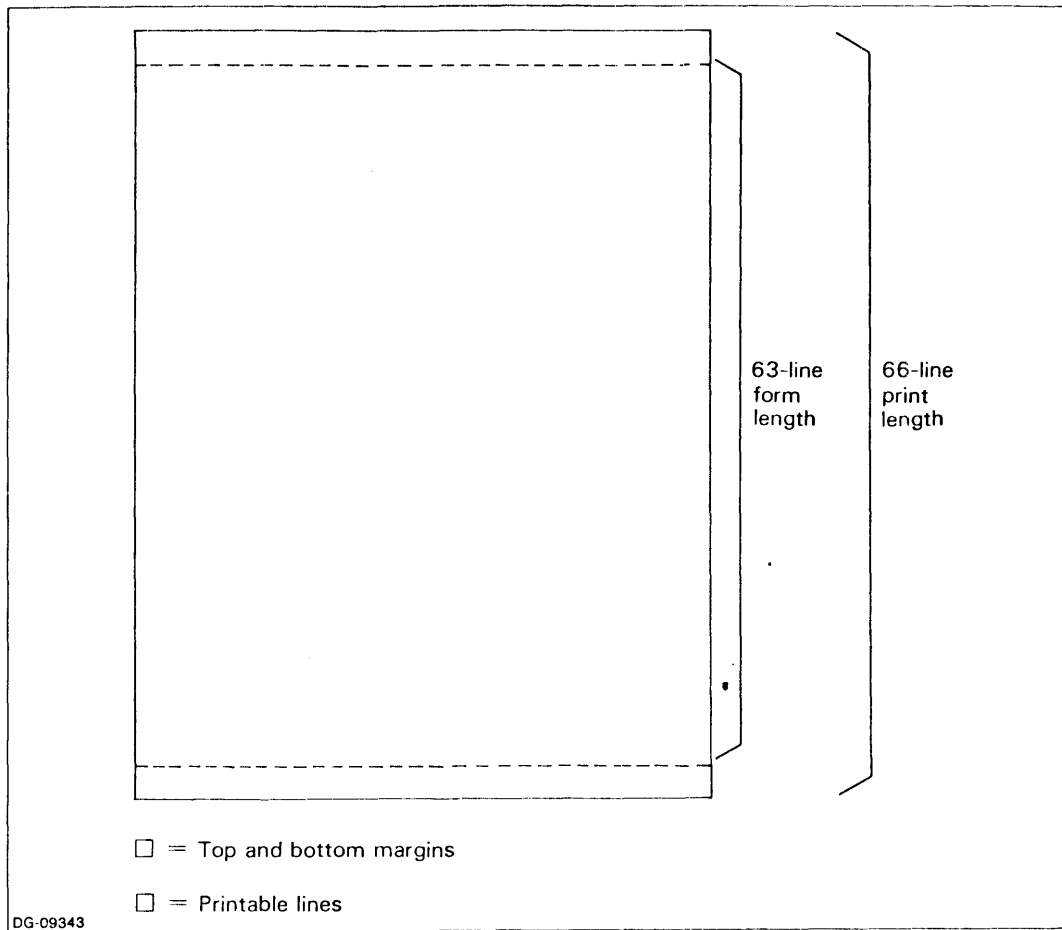

Figure B-2. Standard Data General form and page lengths
For the second argument, form-length, specify the total number of printable lines on a form, which is the total number of lines on the form minus the lines at the top and bottom of the form that are not printed on. (See Figure B-2.)
Figure B-2 shows a standard Data General line printer page form. It has a form length of 63 lines. Three lines at the bottom of the page are not printed on. This means that the form length is the total number of lines (66) minus three nonprintable lines, or 63 printable lines.